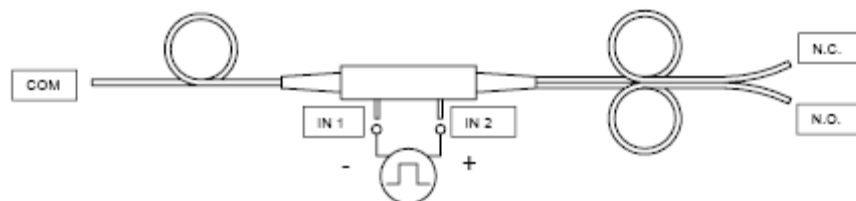

Figure 1 – Applying a Drive Pulse
- 2) Connect the return (-) of a +5V pulse source to the IN 1 terminal. Connect the +5V lead to the IN 2 terminal. Refer to Fig. 1.